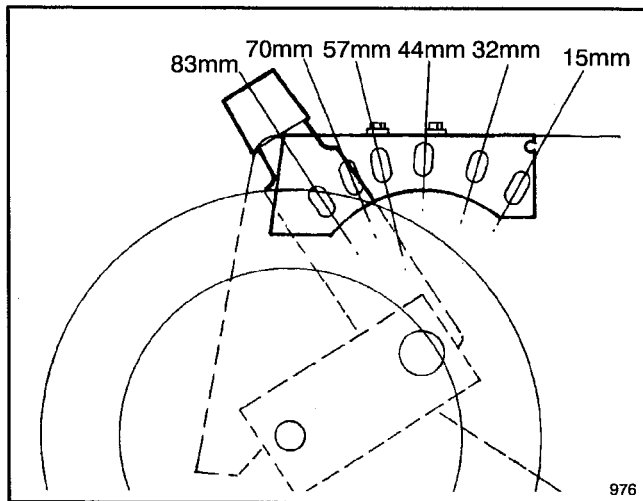

Figure 11
- Grass grows at different rates at different times of the year. In the heat of the summer, it is generally best to cut grass at the 44 mm (1-3/4"), 57 mm (2-1/4") or 70 mm (2-3/4") height-of-cut settings (Fig. 11). Only about 1/3 of the grass blade should be cut off. Cutting below the 44 mm (1-3/4") setting is not recommended unless grass is sparse or it is late fall when grass growth begins to slow down.